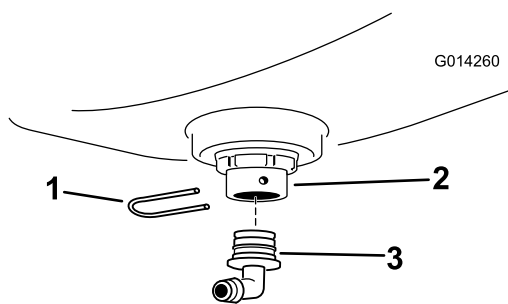

Figure 5
4. Install a 90 degree fitting to the bulkhead fitting and secure it with a retaining fork (Figure 5). Rotate the fitting so that it faces rearward.